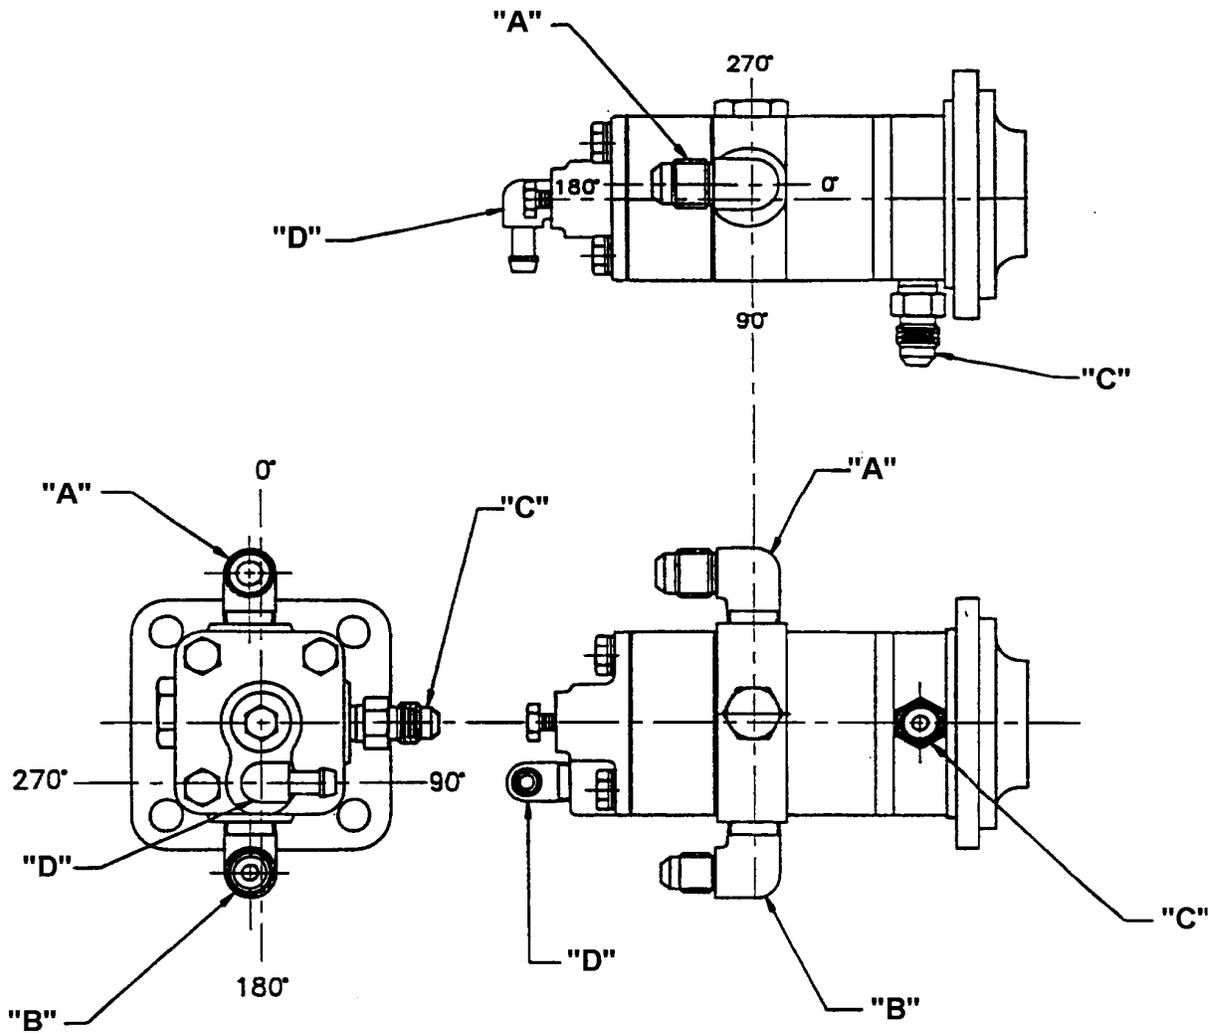
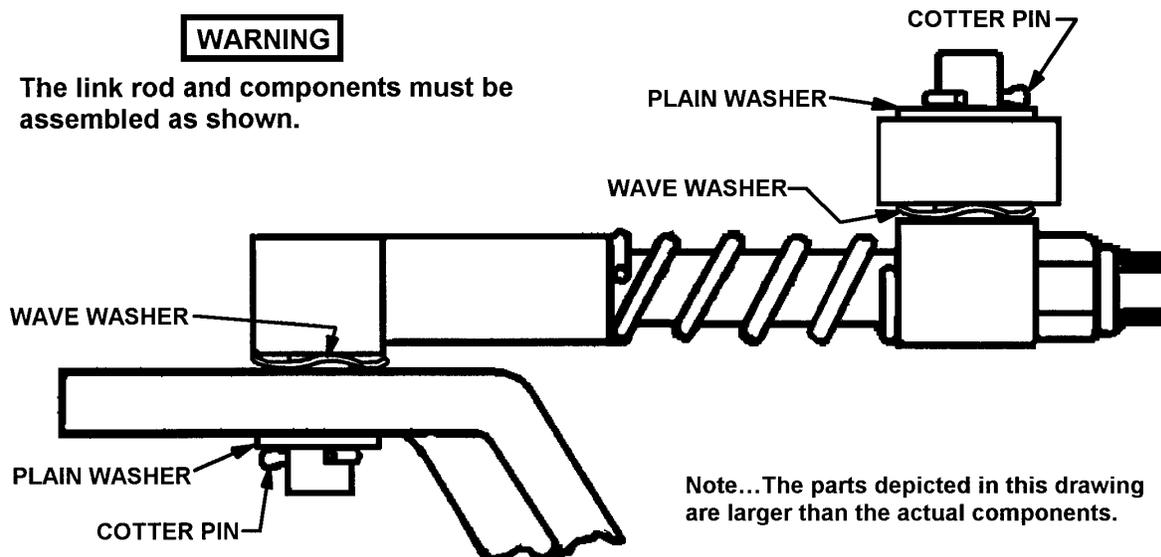

FIGURE 9-2. FUEL PUMP FITTING LOCATIONS
FIGURE 9-8. LINK ROD ASSEMBLY
1. See Figure 9-2, "Fuel Pump Fitting Locations." Remove fittings "A" through "D."
2. See Figure 9-2. Sparingly apply TCM 646940 F/I sealant on fittings that have male tapered pipe threads in accordance with Figure 9-8, "General F/I Sealant Application." Install fittings "A" through "D" into fuel pump at the proper locations and correct orientation.
3. See Figure 6-3. Sparingly apply TCM 646940 F/I sealant on fittings that have male tapered pipe threads in accordance with Figure 9-8, "General F/I Sealant Application." Install fittings (29, 30 and 31) into air throttle adapter ((28).